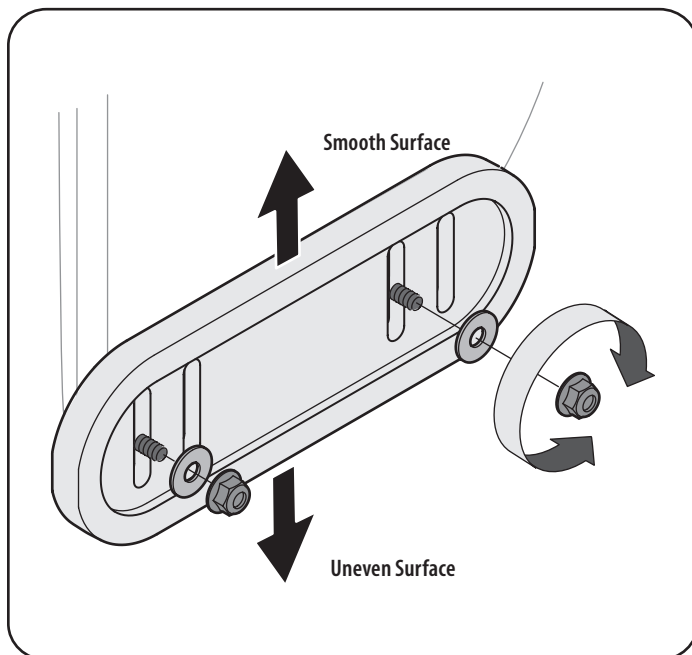

Figure 17
- For close snow removal on a smooth surface, raise skid shoes higher on the auger housing. Refer to Figure 17.
1. Loosen the four hex nuts (two on each side), flat washers, and carriage bolts. Move skid shoes to desired position. See Figure 17.